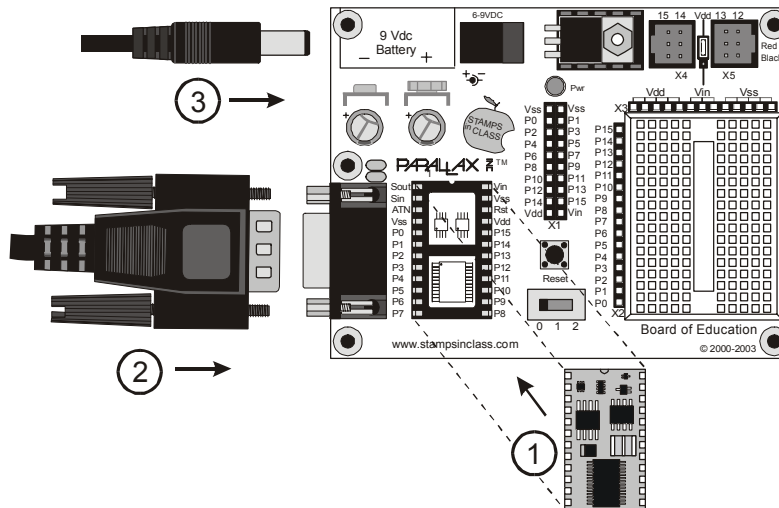

Figure 1-24
- When directed to set the 3-position switch to position-0, turn off power by disconnecting the battery pack (the reverse of Figure 1-24, step 3).
- When directed to set the 3-position switch to either position-1 or position-2, plug the battery pack in as shown in Figure 1-24, step 3.
- ✓ If your BASIC Stamp is not already plugged into your Board of Education, insert it into the socket shown in Figure 1-24, step-1.
Make sure your BASIC Stamp is right-side-up (as shown in Figure 1-24) before you insert it into the socket! If the BASIC Stamp is plugged into the socket upside-down, it could be damaged when you plug in power.
- ✓ Plug the serial cable into the Board of Education as shown in Figure 1-24, step-2.
- ✓ Plug the battery pack into the 6-9 VDC battery jack as shown in Figure 1-24, step-3.